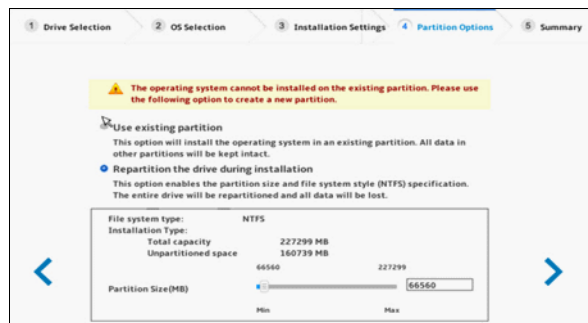

Figure 6-33 Windows partition settings
8. Make adjustments to the Partitions if required as shown in Figure 6-33.